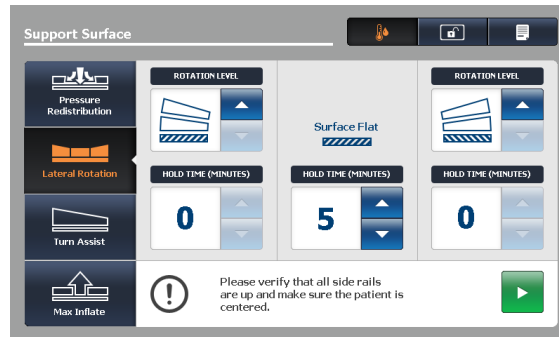

Figure 51: Lateral rotation screen
2. Adjust the Lateral Rotation selections as needed (Figure 51 on page 66):